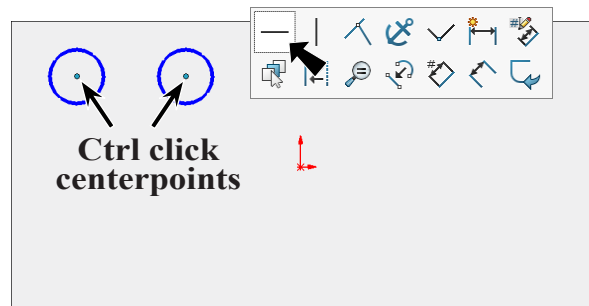

Fig. 25
Step 7. **Ctrl click both circle centerpoints** to select both. Release Ctrl key and click **Make Horizontal**  on the context toolbar, **Fig. 25**.